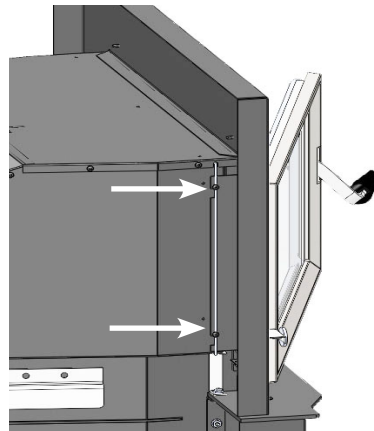

Fig. 9
2. With the loading door open, align the notches on the left side of the rear shroud with the screws protruding out of the firebox can and install. Do the same with the right side and then push back and downwards on the rear shroud to lock it in place. (Fig. 9)